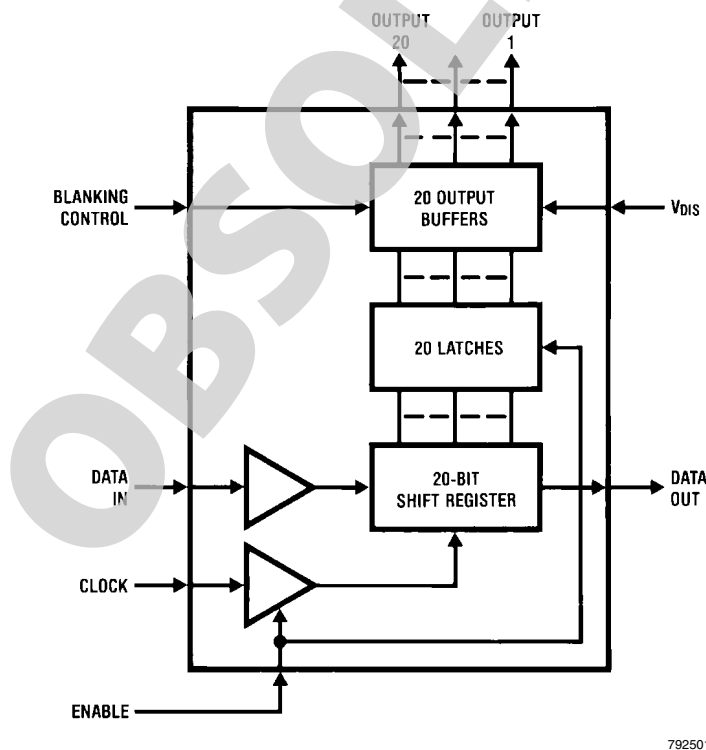

FIGURE 1.
This product is specifically designed to drive multiplexed or non-multiplexed high voltage alphanumeric or dot matrix vacuum fluorescent (VF) displays. Character generation is done externally in the microprocessor, with a serial data path to the display driver. The MM58342 uses three signals, DATA IN, CLOCK and ENABLE, where ENABLE acts as an external load signal. Display blanking can be achieved by means of the BLANKING CONTROL input, and a logic "1" will turn off all sections of the display. A block diagram of the MM58342 is shown in Figure 1.